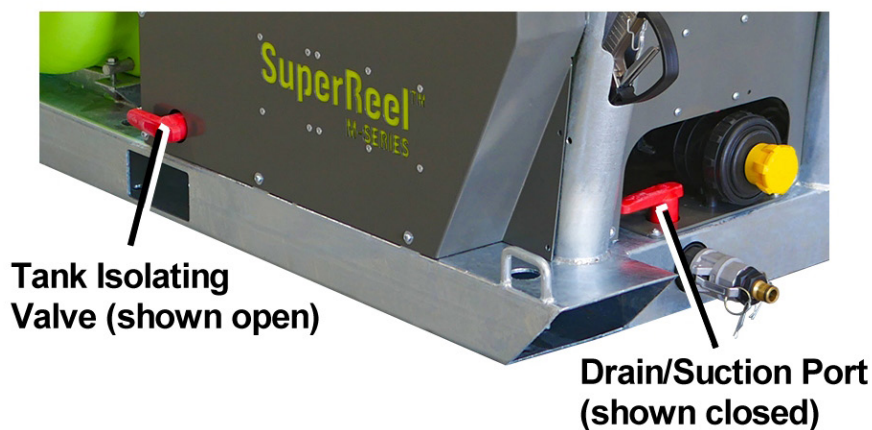

Figure 5 – SuperReel M-Series sprayer's Tank Isolating Valve and Drain/Suction Port
7. Connect a hose (not supplied) to the 1¼" drain port camlock coupling (refer to Figure 5), with the other end connected to either a clean water supply, such as a tank, or a pre-mixed chemical tank.